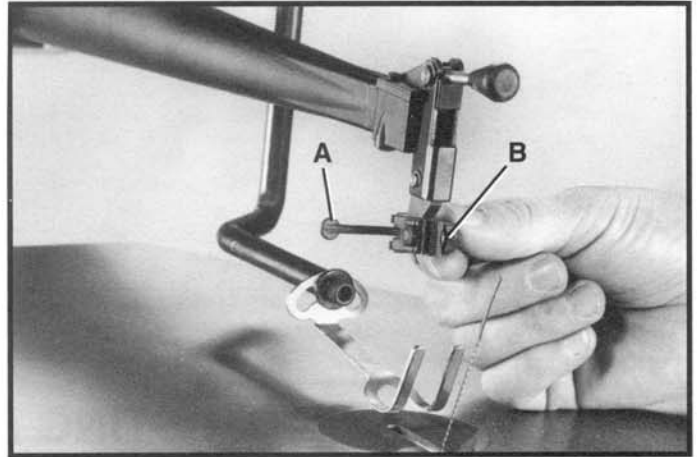

Fig. 23
Different widths of scroll saw blades will make it necessary to adjust the clamping action of the blade holders. It should be noted, however, that very little adjustment is necessary and very little clamping force is required to hold the blade satisfactorily. As a rule of thumb, looking down at the table with the table insert slot in the 6 o'clock position, resistance on the blade locking lever (A) Fig. 23, should be felt when the upper blade locking lever reaches the 7 o'clock position, or when the lower blade locking lever reaches the 5 o'clock position.
1. Move the blade holder locking lever (A) Fig. 23, to the rear (open) position, as shown.
2. Turn locknut (B) Fig. 23, clockwise to tighten and counterclockwise to loosen the clamping action of the blade holder. **VERY LITTLE MOVEMENT OF LOCKNUT (B) WILL BE NECESSARY.**